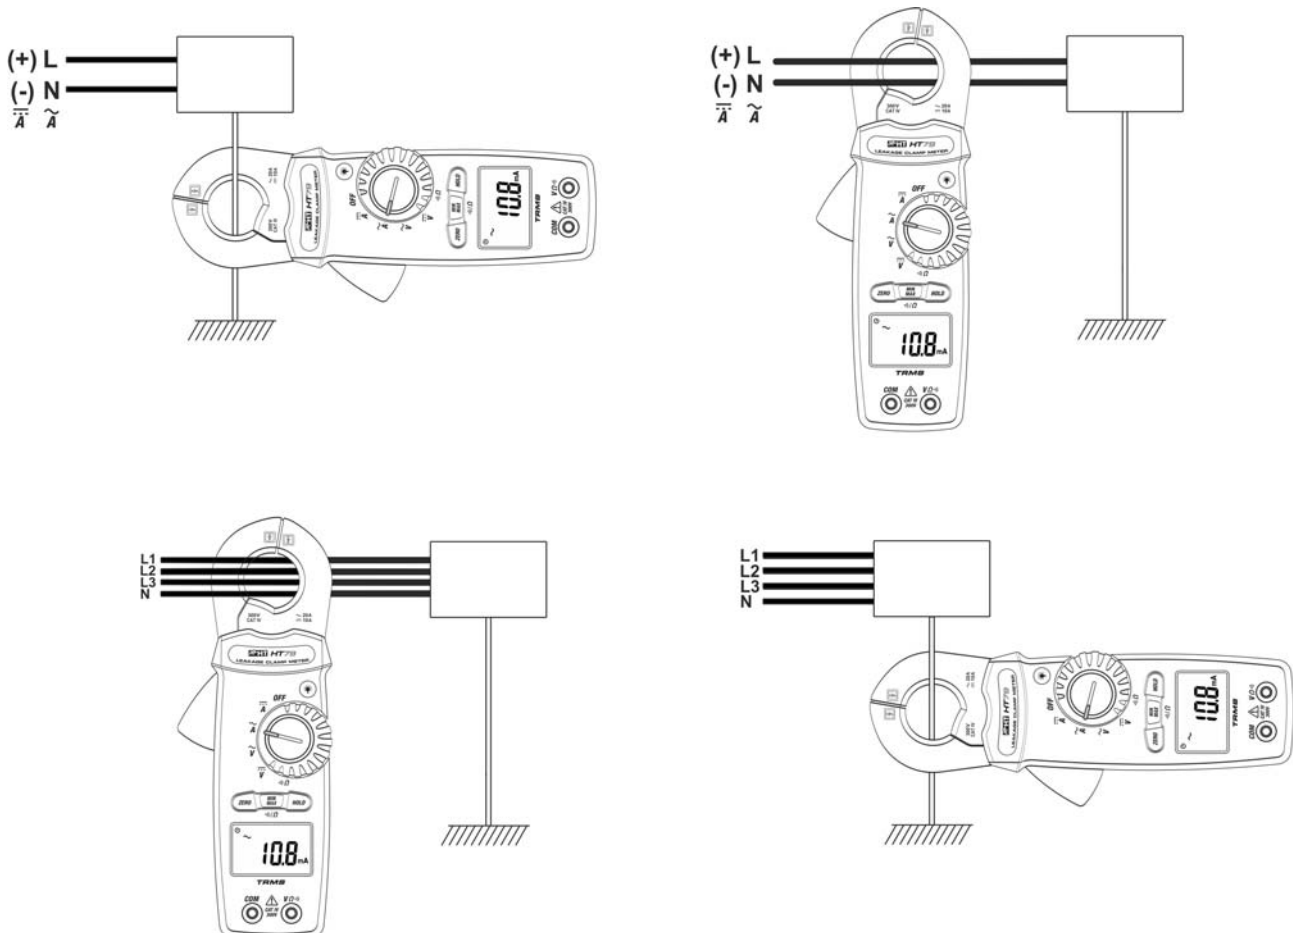

Fig. 10: Use of the instrument for AC or DC leakage current measurement
3. Open the clamp jaws and connect the instrument as shown in Fig. 10 for DC systems or single-phase/three-phase 4-wire AC systems. The display shows the value of leakage current.